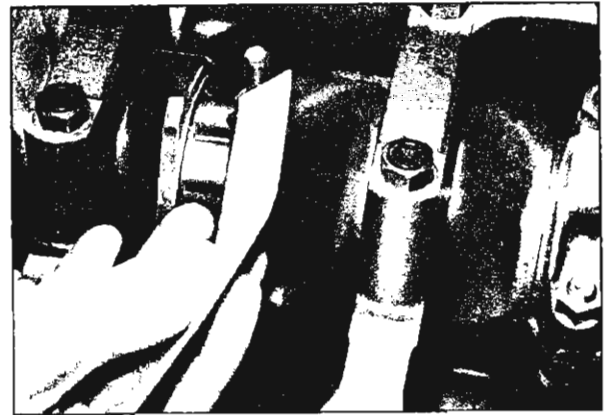

Fig. 56—Measuring Plastigage
6. Remove the bearing cap and without removing the Plastigage, check its width at the widest point with the Plastigage scale (fig. 56).